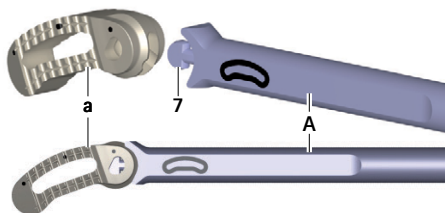

Fig. 7 Coupling the implant to the insertion instrument
- Mount the implant **a** in the protective packaging onto the dihedron **7** of the insertion instrument **A**, see Fig. 7. When doing so, pay attention to the orientation of the implant (orientation according to the marking on the insertion instrument).
- ▶ Couple insertion instrument **A** to implant **a** in situ, see Fig. 7.